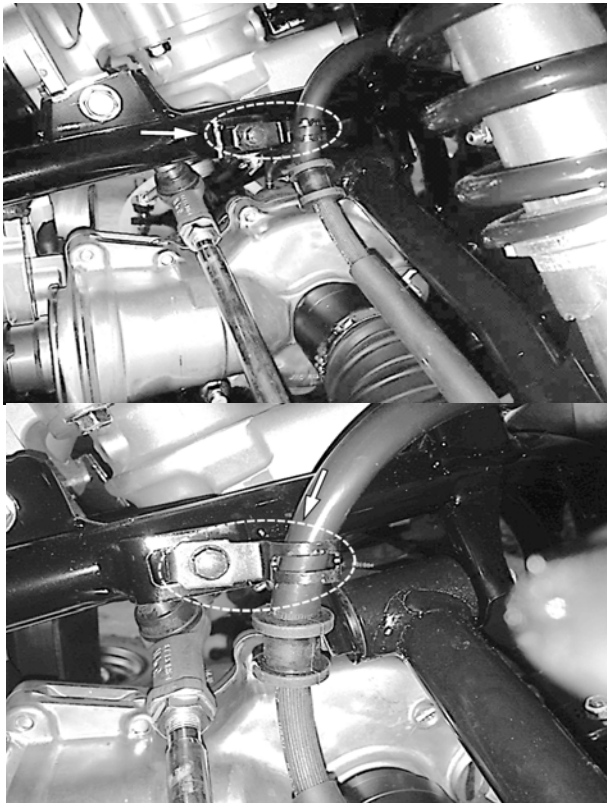

Fig. 16
6. Move clamps (C) directly on the brake hose. Re-attach them to their mounting point on the frame. See Fig. 16.